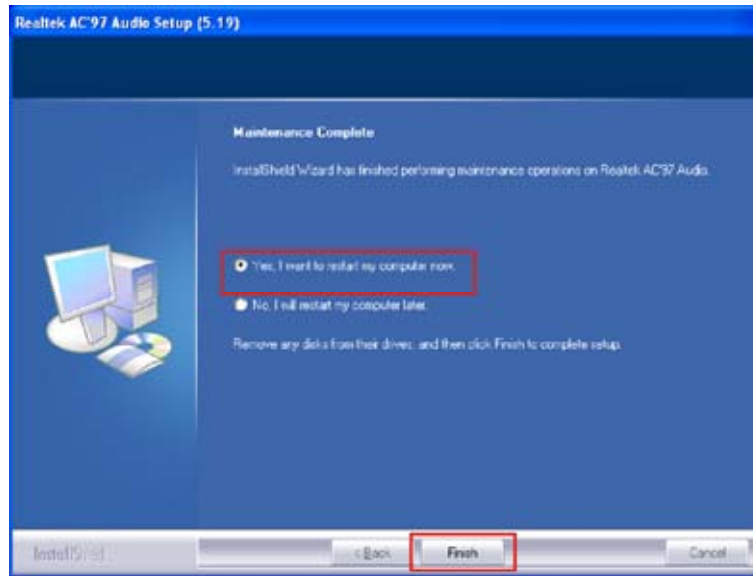

Figure 7-23: AC'97 Driver Installation Complete
Step 54: When the driver is installed, the driver installation finish screen in **Figure 7-23** appears.